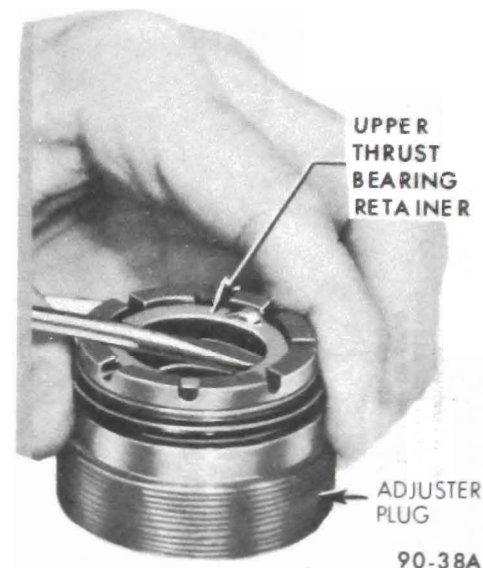

Figure 90-48 Removing Upper Thrust Bearing Retainer
1. Remove the upper thrust bearing retainer with a screwdriver, being careful not to damage the needle bearing bore. See Figure 90-48. Discard retainer. Remove thrust bearing spacer, upper thrust bearing and thrust bearing races.